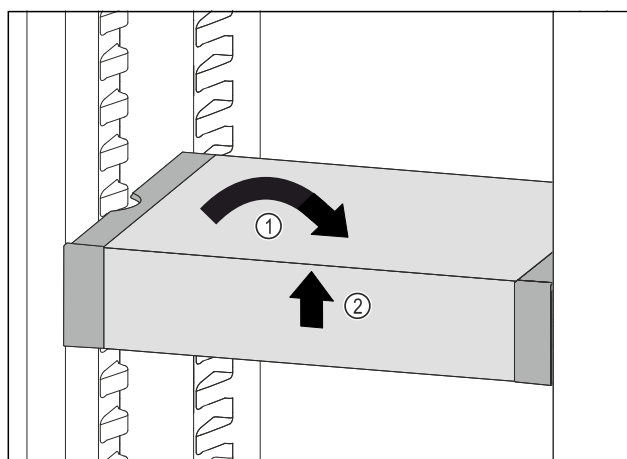

Fig. 176
- Set VarioSafe straight. Fig. 176 (1)
- Lift VarioSafe at the front. Fig. 176 (2)